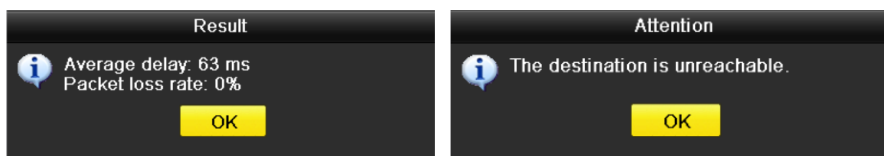

Figure 12-31 Testing Result of Network Delay and Packet Loss
Step 4 Click **Test** button to start testing network delay and packet loss. The testing result pops up on the window. If the testing is failed, the error message box will pop up as well. Refer to Figure 12-31.